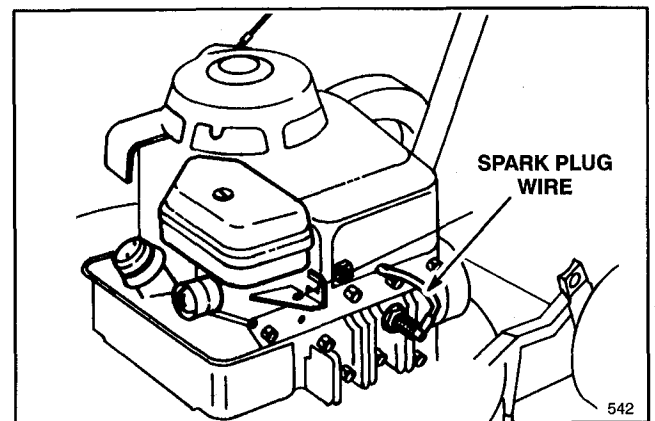

Figure 11
1. Stop engine and pull wire off spark plug (Fig. 11).